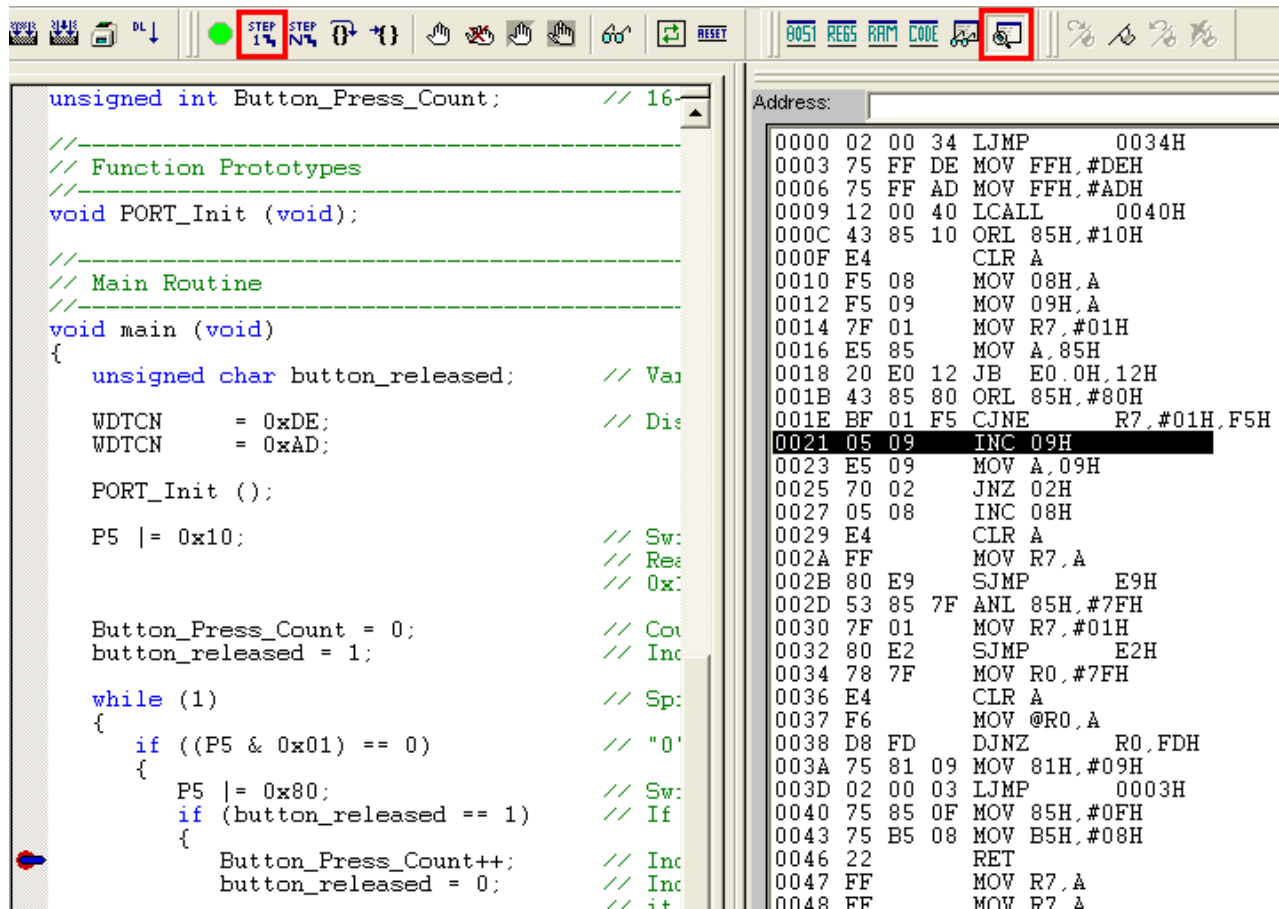

Figure 16. Disassembly Window
3. Select **View** → **Debug Windows** → **Disassembly**, or click the **Disassembly Window** button on the toolbar. The disassembly window shown in Figure 16 will appear on the right-hand side of the IDE (if it is not already open).